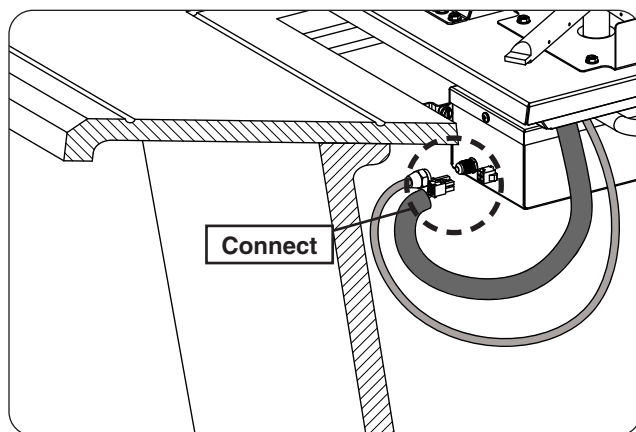

Fig. 29-3 Connect pilot line and electrical
6. Connect the pilot line and electrical (coming from the burner assembly) to the control box (See Fig. 29-3).